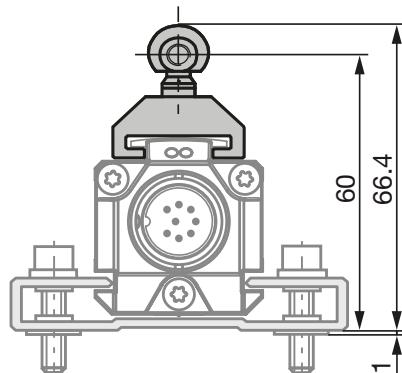
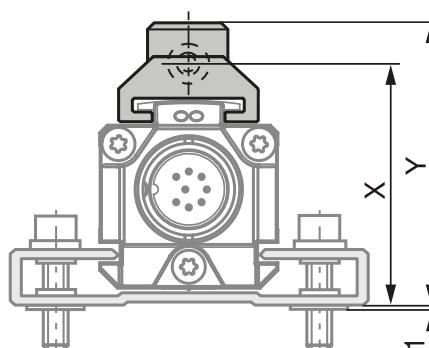
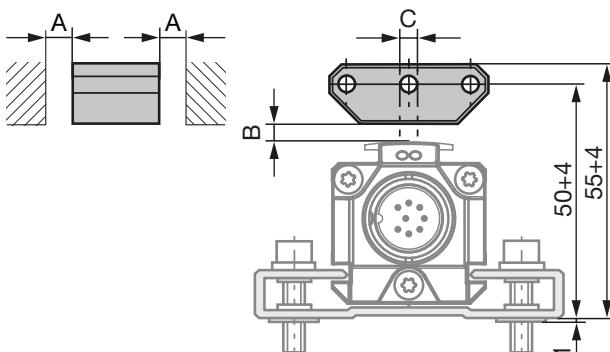
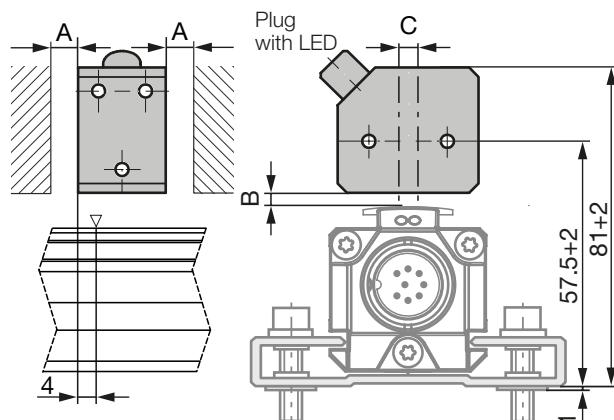

Fig. 4-1: Dimensions and distances with BTL5-F-2814-1S magnet
Fig. 4-3: Dimensions and distances with BTL5-M/N-2814-1S magnet
Fig. 4-4: Dimensions and distances with BTL5-P-3800-2 magnet
Fig. 4-8: Dimensions and distances with BTL5-P-4500-1 electromagnet (24 V/100 mA)
- i** The transducer in profile housing is suitable both for floating, i.e. non-contacting magnets (see Fig. 4-4 to Fig. 4-8), and for captive magnets (see Fig. 4-1 to Fig. 4-3).
- Ensure that the distance A between the magnets and parts made of magnetizable material is at least 10 mm (see Fig. 4-4 to Fig. 4-8).
- Maintain the following values for distance B between the magnet and transducer and for center offset C (see Fig. 4-4 to Fig. 4-8):
The measuring range is offset by 4 mm towards the transducer plug (see Fig. 4-8).